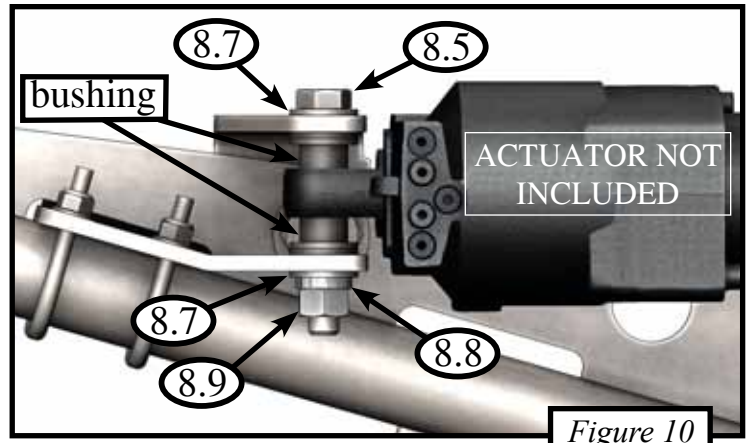

Figure 10
11. Place bolt (8.5) through flat washers (8.7), bushings, Hydraulic Actuator (105965 NOT INCLUDED), and rear brackets. Slide washer (8.7) lock washer (8.8) and nut (8.9) onto the bolt (8.5) shown in *Figure 10*. Tighten bolt down snug.